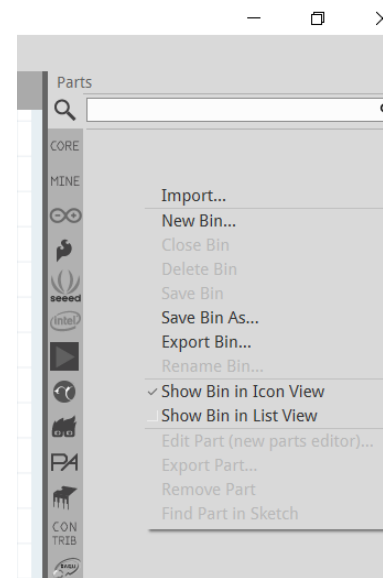

Figure 1. Right click menu in fritzing, note the import button on the top.
- Start Fritzing; right-click in the top right region labeled "Parts" and select "Import..." from the menu as demonstrated in Fig. 1. You will then point the application to each of the libraries (i.e., "tsop382.fpz") wherever you downloaded and extracted them on your computer.